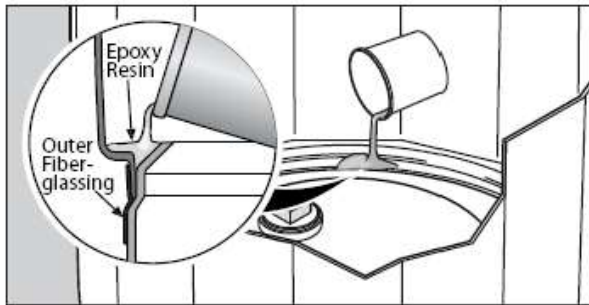

Figure 17
19. For best results, the epoxy should be stored and mixed at room temperature. If the temperature is below 60°F, the adhesive must be warmed and mixed indoors. Pour the entire contents of Part A and Part B into mixing container. Thoroughly mix the adhesive with the provided mixing stick or with a drill mounted mixing paddle at low speed for a minimum of three (3) minutes. Be sure to scrape the bottoms and sides of the container to ensure proper and complete mixing.
21. Pour the entire mixture into the joint as shown in Figure 17. Allow adhesive to set-up undisturbed until it is hard.